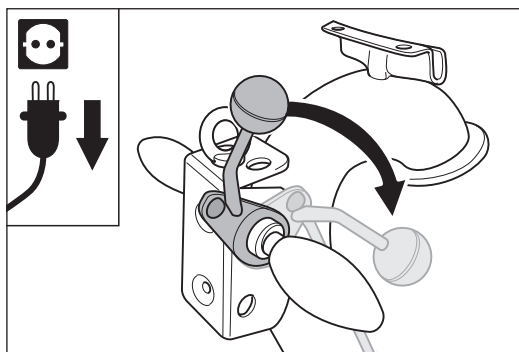

Fig. 47 Press the lowering lever at the handle downwards to lower the sanding drum onto the floor.
- 10 Press the lowering lever at the handle downwards (Fig. 47) to lower the sanding drum onto the floor.